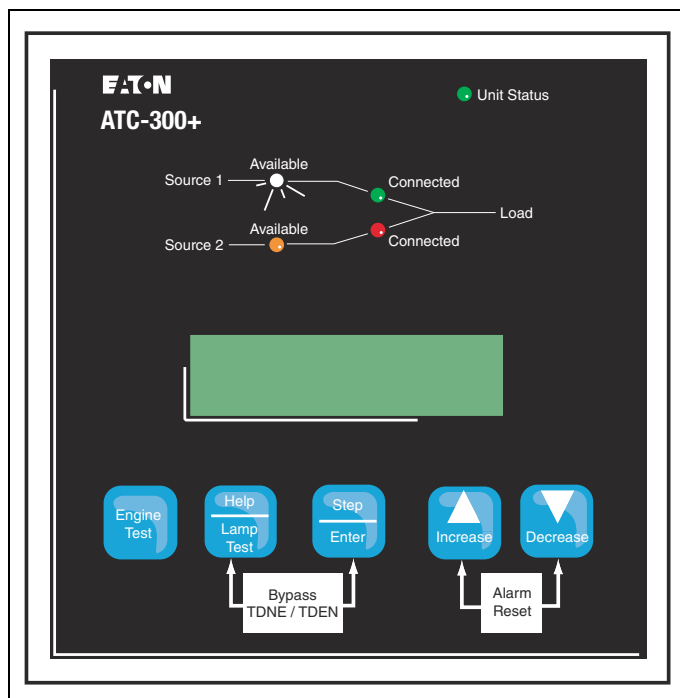

Figure 20. ATC-300+ Logic (Utility Supplying Load).
- Step 5:** Apply Utility (Source 1) power. If the switch is properly applied for the system voltage ordered, the display should work and the Source 1 Available white LED should light (Figure 20). Using a voltmeter, check for proper system voltage on Source 1 and load terminals. Check all phases on a 3-phase switch. Voltage measurements should be taken phase to phase and phase to neutral.